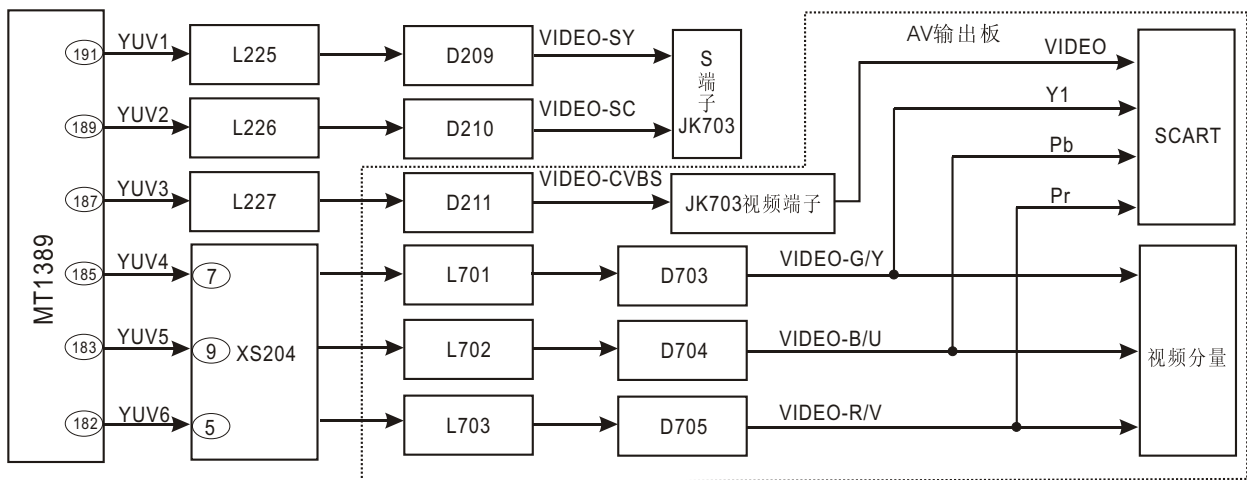

Figure 3.2.8.1 Video signal flow chart
1. Video signal flow chart diagram is shown as in the following figure 3.2.8.1: